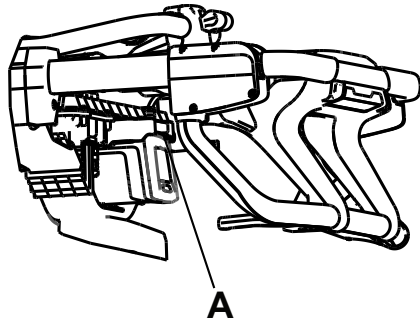

Figure 41 – Battery release button
1. Press the battery release button (A) to release the battery from the product (Figure 41).